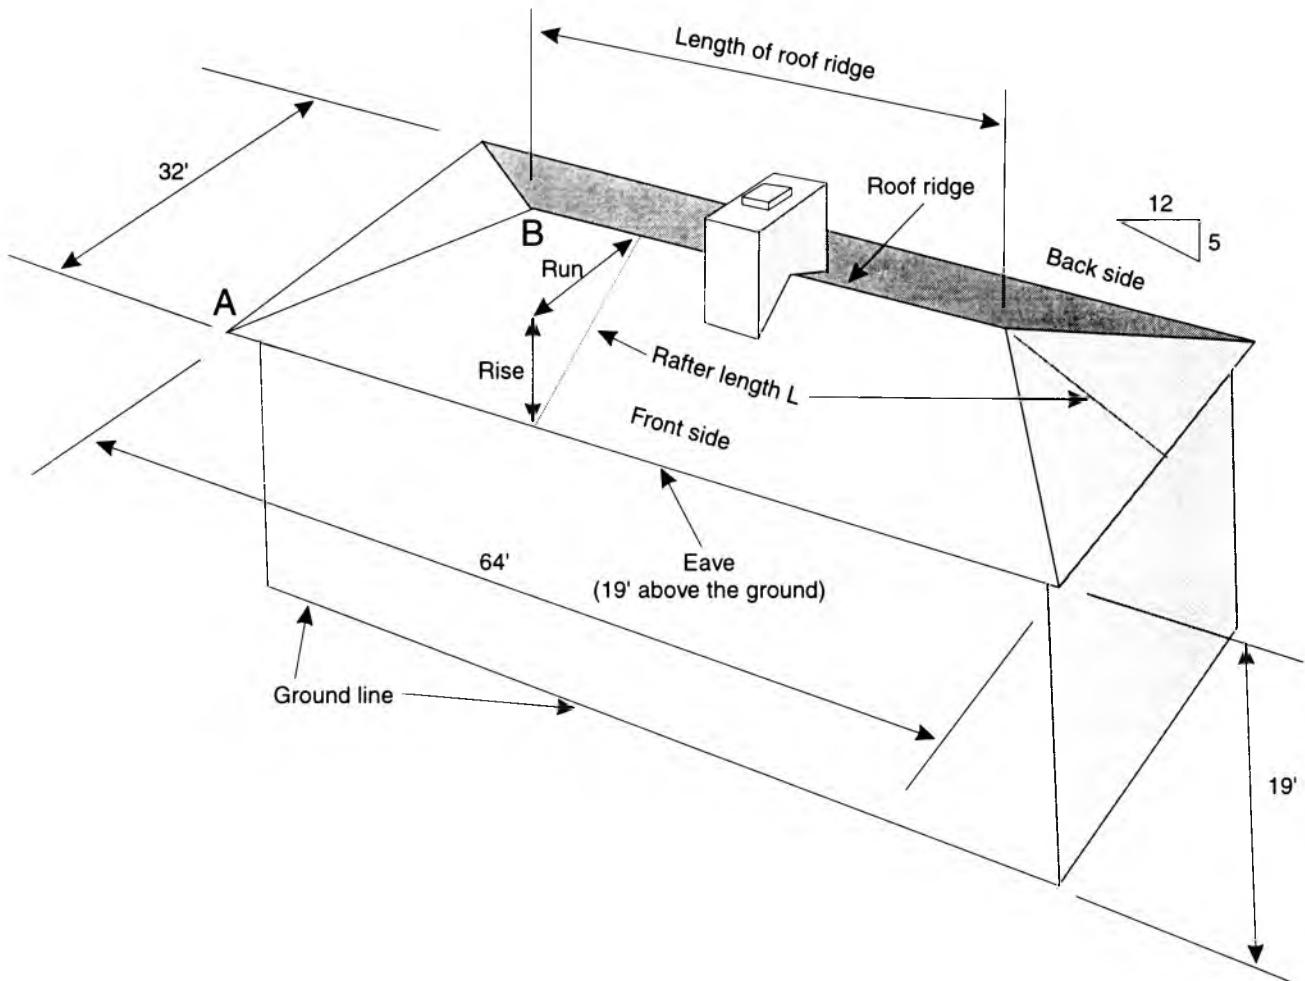

Figure 2-9: A dimensioned perspective view of a building with a hip roof.
2-33 The hip roof in Figure 2-9 has a rise of 5 feet and a run of 12 feet. What is the vertical distance (rise) between the eave and the roof ridge?
2-34 If the chimney in Figure 2-9 extends 2 feet above the roof ridge, what is the total height of the chimney above the ground line?
2-35 What is the length of the roof ridge in Figure 2-9 on the preceding page?
2-36 What is the length (L) of each rafter in Figure 2-9 on the preceding page?
2-37 What is the length of the corner ridge line A-B in Figure 2-9 on the preceding page?